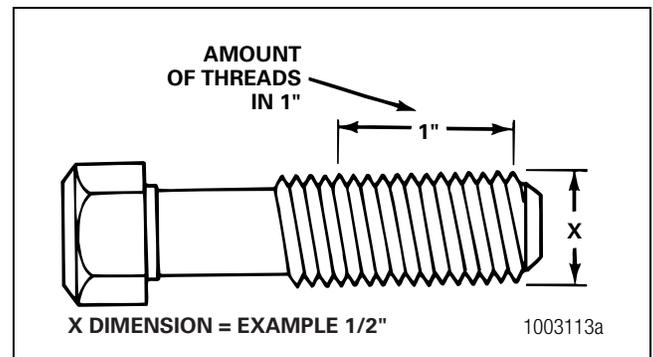

Figure 7.1
1. Measure the diameter of the threads in inches, dimension X. Figure 7.1.
2. Count the amount of threads there are in 1-inch. Figure 7.1.
| 0.50-13 Standard American size (Figure 7.1) | 0.50 = the diameter of the fastener in inches, dimension X 13 = the number of threads in one inch |
| M8 x 1.25 Metric (Figure 7.1) | M8 = the diameter in millimeters, dimension X 1.25 = the distance between two threads, pitch |